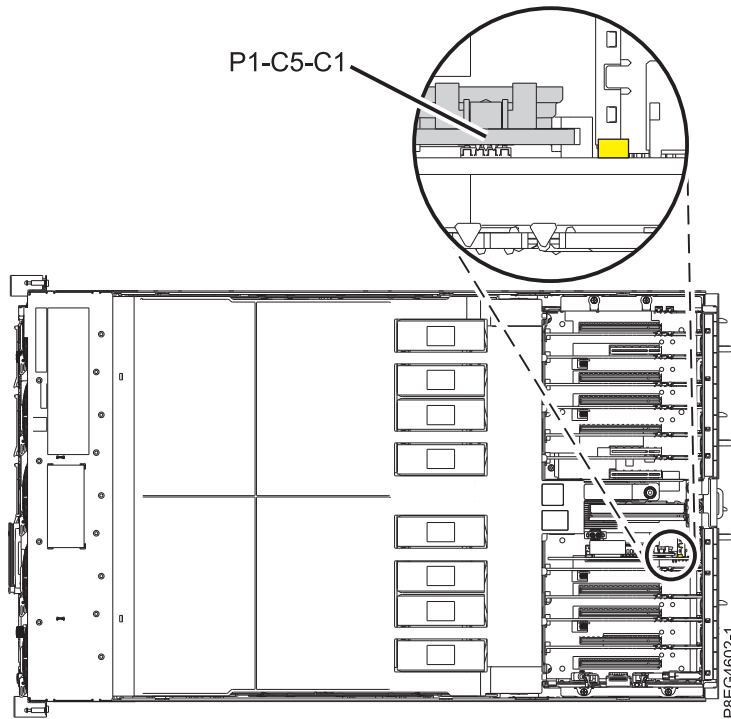

Figure 1. Location of the time-of-day battery card and LED in the 8408-44E or 8408-E8E system
6. Look for the flashing amber fault LED that you enabled in step 1 on page 1 to identify the failed time-of-day battery card. Figure 1 on page 3 shows the location of the time-of-day battery card in the 8408-44E or 8408-E8E system and the position of the LED, which is located on the service processor card.